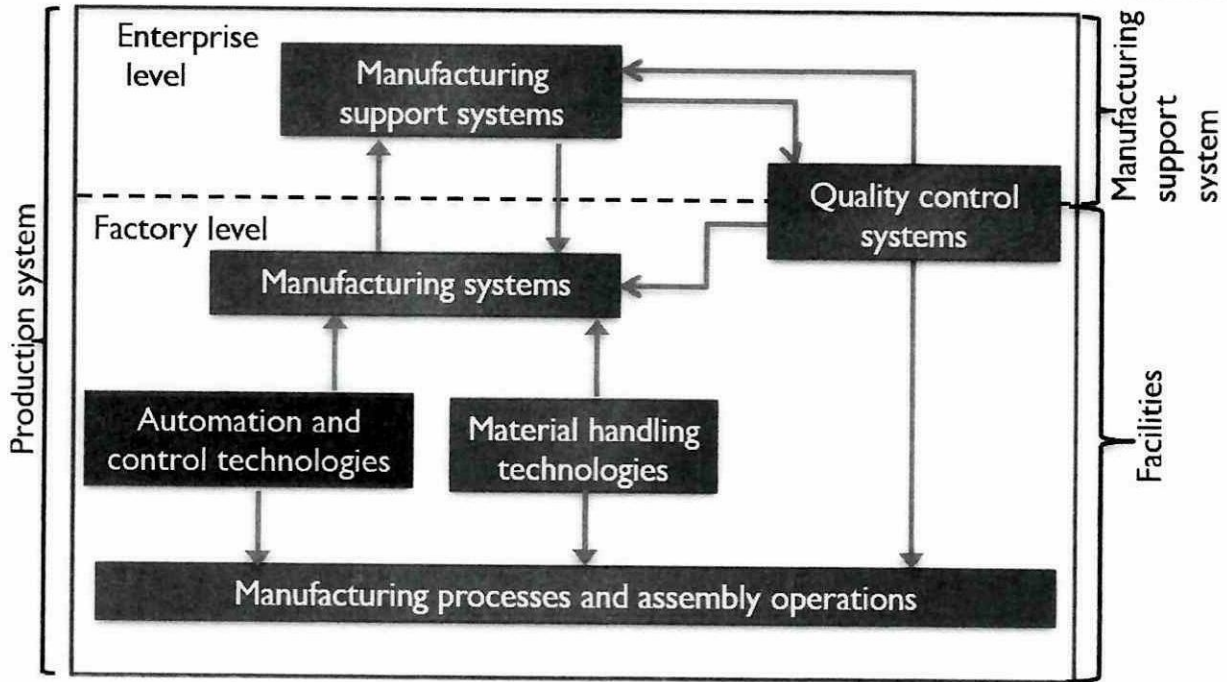

Figure Q1(a)
- (a) Based on **Figure Q1(a)**, discover the role of automation and control technologies in a production system. (5 marks)
- (ii) Based on the three (3) types of automation, propose an example of a suitable product to be applied in each type of automation. (6 marks)